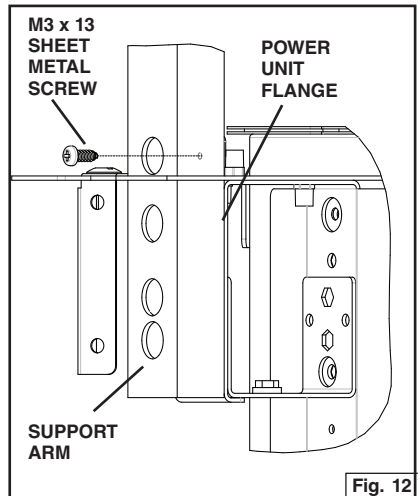

Fig. 12
6. Attach the arm to the power unit flange with (1) M3 x 13mm sheet metal screw. Fig. 12.